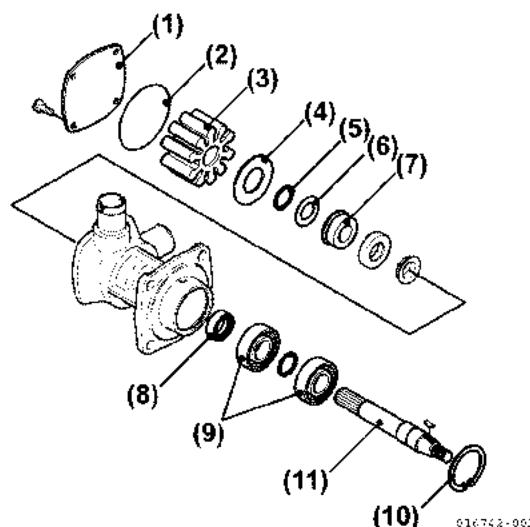

Figure 7-35
4. Remove four bolts, side cover (Figure 7-35, (1)) and O-ring (Figure 7-35, (2)).
5. Remove the impeller (Figure 7-35, (3)) and wear plate (Figure 7-35, (4)) from the housing.
6. Remove retainer, washer and mechanical seal (Figure 7-35, (5), (6), (7)).
7. Using pliers from drive gear side, remove retainer (Figure 7-35, (10)) which holds bearings (Figure 7-35, (9)).
8. Lightly tap pump shaft from impeller side and remove shaft and bearings as a set (Figure 7-35, (11), (9)).
9. Remove lip seal (Figure 7-35, (8)) and mechanical seal if necessary.
Note: When installing the new impeller, rotate the impeller clockwise to bend the vanes in the direction of rotation (Figure 7-35, (3)).
15. Install a new O-ring (**Figure 7-35, (2)**) and hold it in the groove using petroleum jelly.